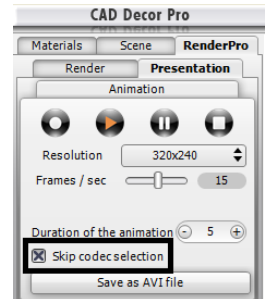

Fig. 500 – Skip codec selection checkbox
- it is possible to resign from skipping the codec selection, in order to change the codec without restarting the program – to do it, deselect the **Skip codec selection** checkbox, which is selected by default (Fig. 500) (after the first AVI video is saved, which mean the codec was selected).